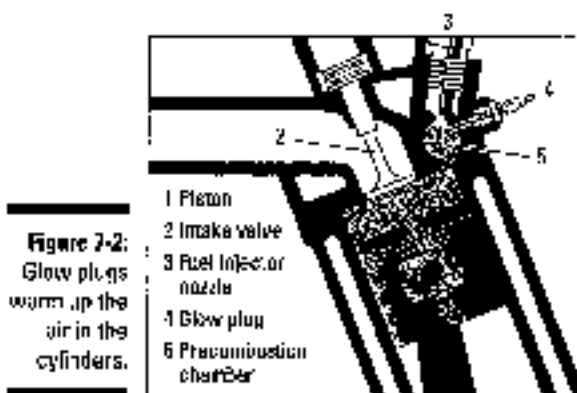

Figure 7-2:
1. When you first turn the key in the ignition, you're asked to wait until the engine builds up enough heat in the cylinders for satisfactory starting. (Most vehicles have a little light that says, "Wait," but a sultry computer voice may do the same job on some vehicles.) When you turn the key, the glow plugs kick in and begin to warm up the air in the cylinders. (See Figure 7-2.) Usually, you don't have to wait long — probably no more than half a minute in moderate weather. Developments in glow plugs have dramatically reduced starting time.
- As you've read, turning the key started the glow plugs warming up the air in the cylinders. On many engines, the glow plugs are located right in the combustion chambers of the cylinders. On others, they have been placed in little precombustion chambers (refer to Figure 7-2), which the glow plugs can heat more quickly and easily.